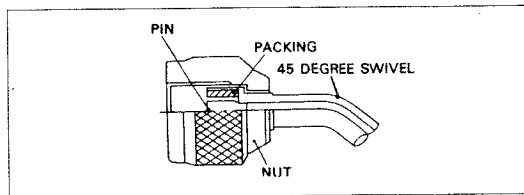

Fig. 46
- B) The 45 degree swivel fitting of charging hose is equipped with special pin to opening the charging hose connecting port on compressor service valve, and straight fitting of charging hose is always connected to the port of refrigerant charging gauge. See Fig. 46.